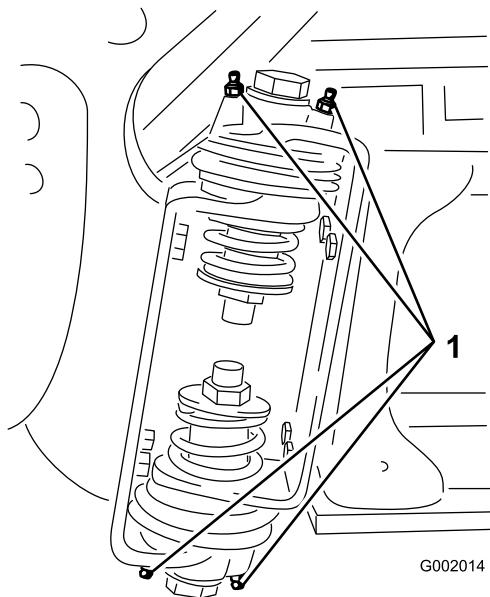

Figure 107
2. Pump grease into the bearing or bushing at each fitting (Figure 107).